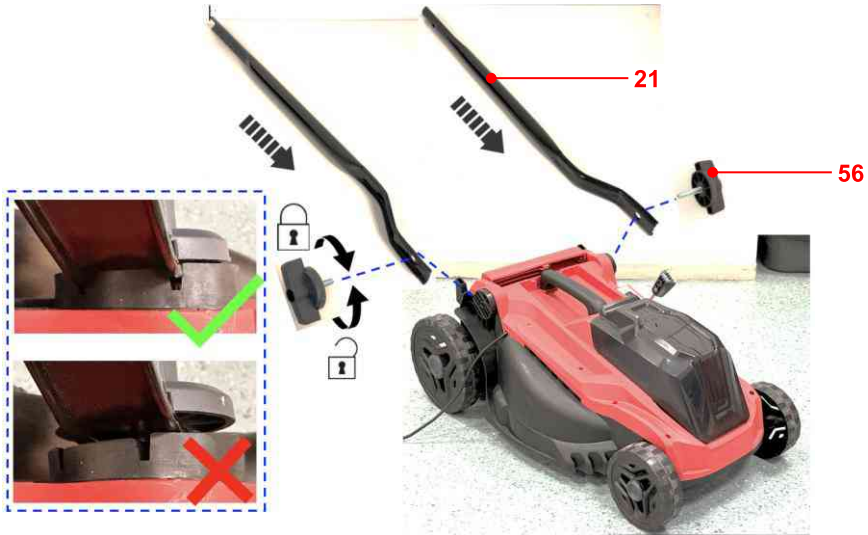

Fig. 21
1. Pre-assemble the switch box onto the mounting plate (11) on the new upper pole (17) as instructed in the section “Switch Box” and ready for use.
3. Align the mounting holes and assemble the lower poles (21) onto the supports. Secure the connection with the locking knobs (56) (Fig. 21).